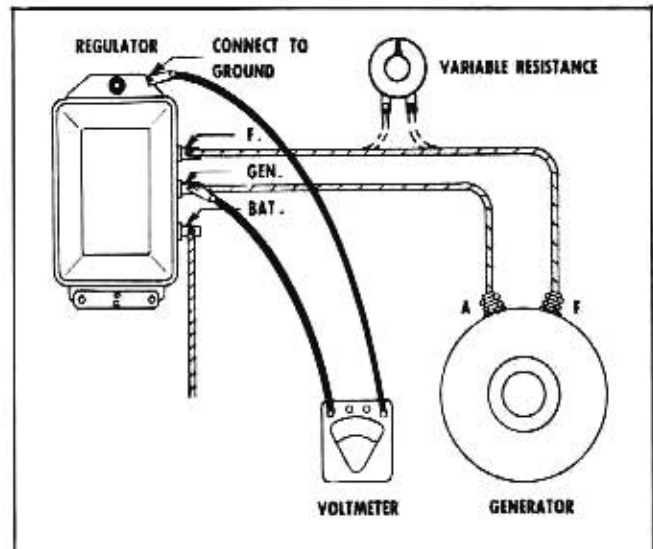

Fig. 11-19 Checking Closing Voltage
1. Connect a voltmeter between the regulator GEN terminal and ground (Fig. 11-19).